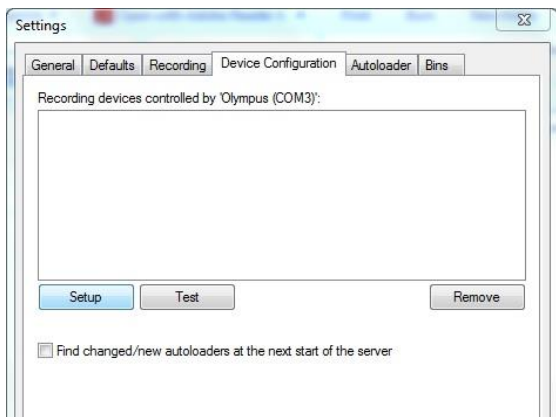

fig.3
- Once that activates, on the same “Device Cnfiguration” tab, select “Setup”(fig.3)